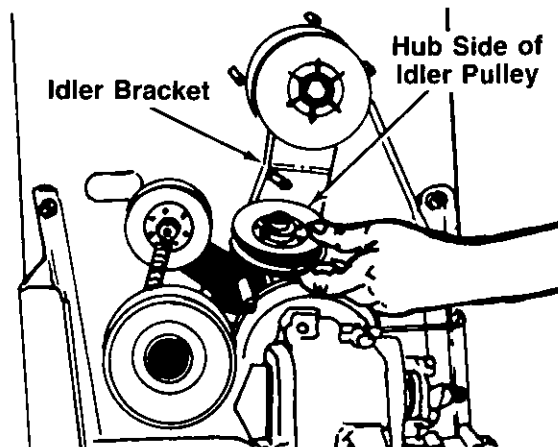

FIGURE 34.
- Upon reassembly of idler pulley, be certain the hub side of idler goes against the idler bracket. See figure 34.